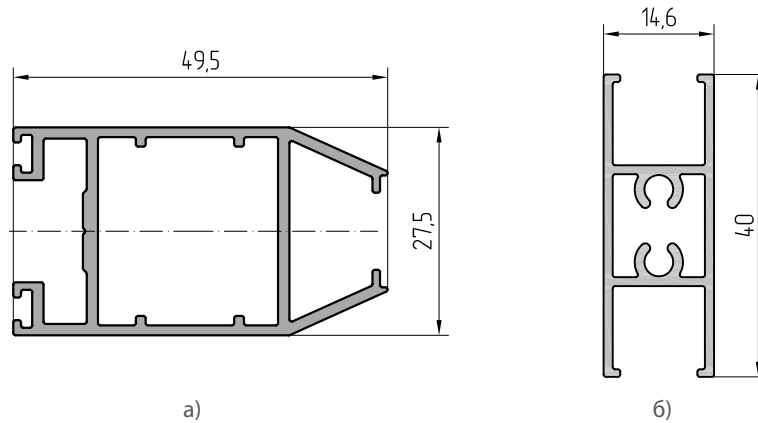
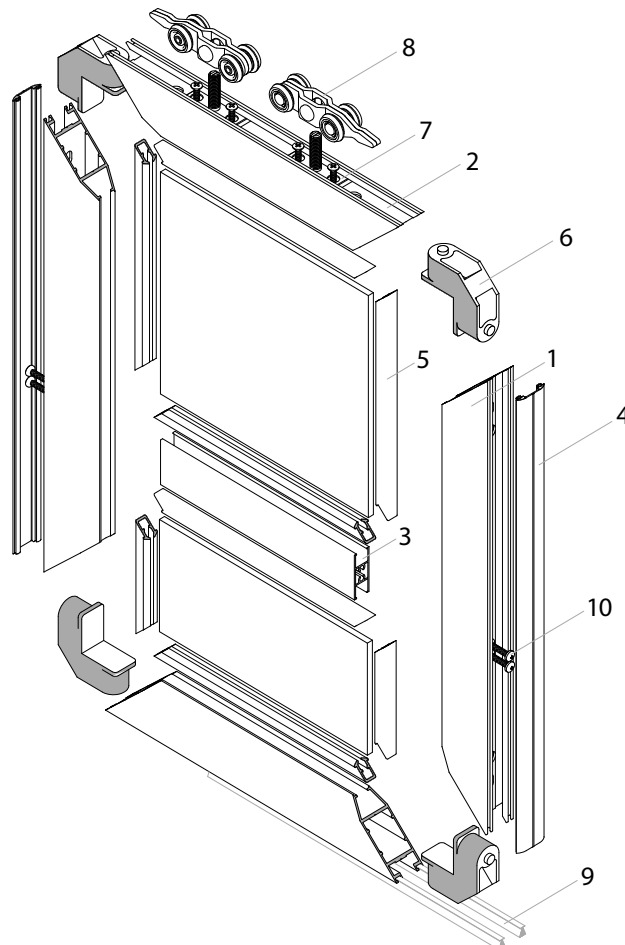

Fig.11
Fig.12
The door leaf profile on Fig. 11 (a) is cut at 45 angle on segments forming the contour of the door Fig.12 (1, 2). The contour of the door is assembled at the corners Fig.12 (6). The profile b on Fig.11, which is fixed by self-tapping screws Fig.12 (3, 10) is used as a transom.